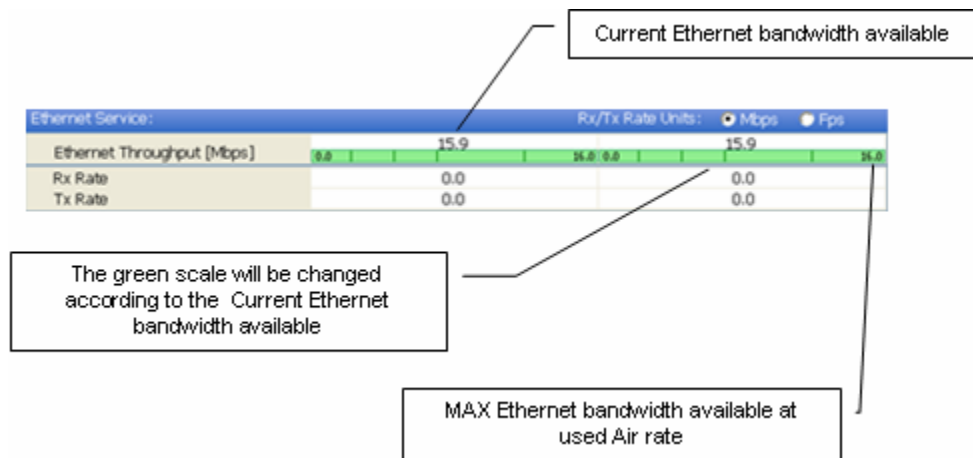

Figure 3-4. Ethernet Bandwidth Indication
- Current Ethernet bandwidth in Mbps. This is not the actual traffic rate, but the maximum capacity that can be supported currently, see Figure 3-4